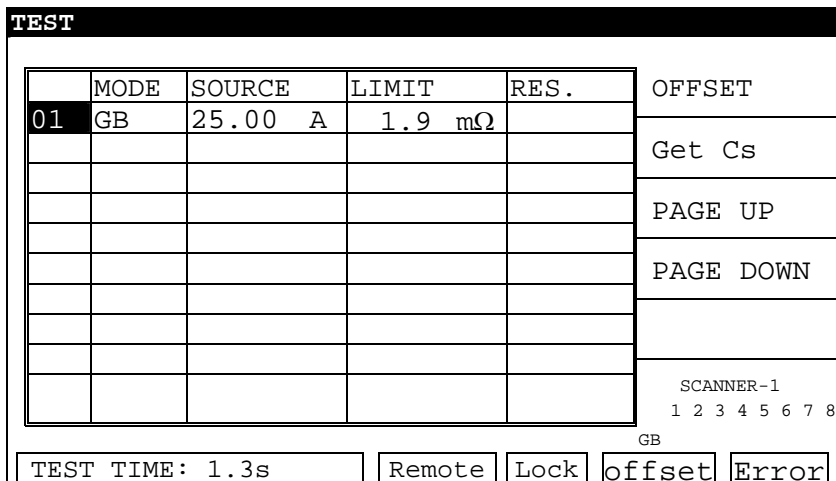

Figure 4-8
- After GB CONTACT counting down for three seconds (Start Wait setting time), then process test as Figure 4-8 shown.